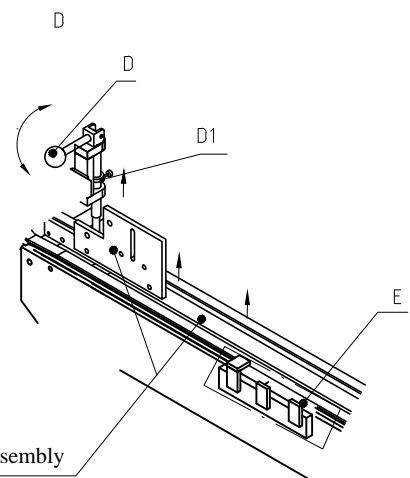

Fig 2-3
- ① Control the position of upward clamping roller subassembly (A) and pre-folding upward clamping roller subassembly (B) through clamping screw A1 and adjusting screw B1, thus to increase or reduce the downward pressure of two clamping roller, see Fig 2-3. The appropriate pressure directly influences the normal transfer of the paper. Normally, the transitive pressure of two subassemblies should be balanced. (The pressure for special shaped box is to be adjusted according to actual situation).